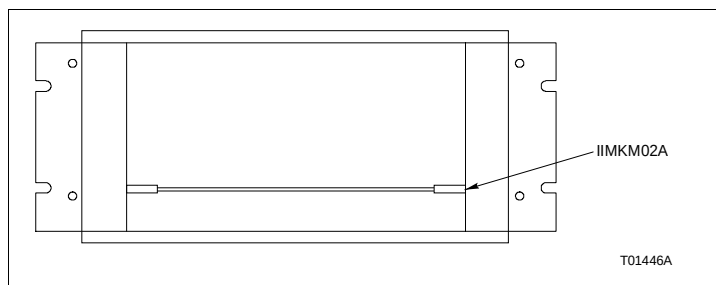

Figure PR9-1. Module Location
2. Figure PR9-1 shows the location of the module in the multi-bus card cage.